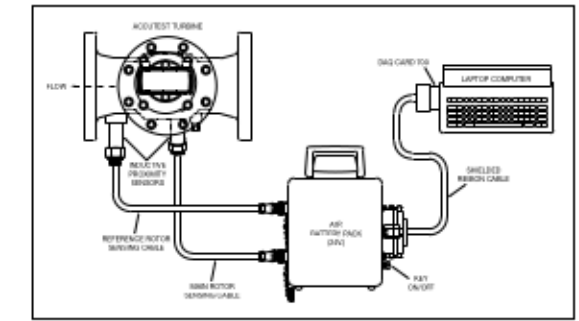

Figure 9 Laptop Proving Setup
4. Connect the cable to the flat connector of the signal conditioner/power supply box, as shown in Figure 9. Note the key in the strip connector for proper orientation.